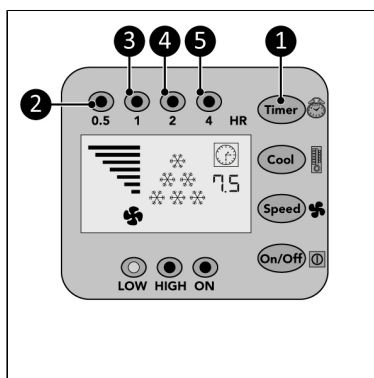

Figure 31.
1. Press the Timer button (Figure 31, pos. 1) repeatedly to start the countdown timer of:
- 0.5 hour: the 0.5 hr indicator (Figure 31, pos. 2) will light up;
- 1 hour: the 1 hr indicator (Figure 31, pos. 3) will light up;
- 2 hours: the 2 hr indicator (Figure 31, pos. 4) will light up;
- 4 hours: the 4 hr indicator (Figure 31, pos. 5) will light up;
- 7.5 hours: the 0.5 hr indicator, the 1 hr indicator, the 2 hr indicator and the 4 hr indicator (Figure 31, pos. 2, 3, 4 and 5) will light up.